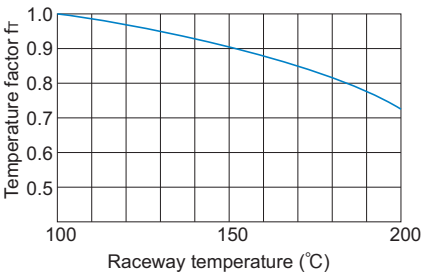

Fig.11 Temperature Factor (fT)
- fT : Temperature factor (see Fig.11 on B1-75)
(see Fig.11 on B1-75)
If the temperature of the environment surrounding the operating LM Guide exceeds 100°C, take into account the adverse effect of the high temperature and multiply the basic load ratings by the temperature factor indicated in Fig.11.